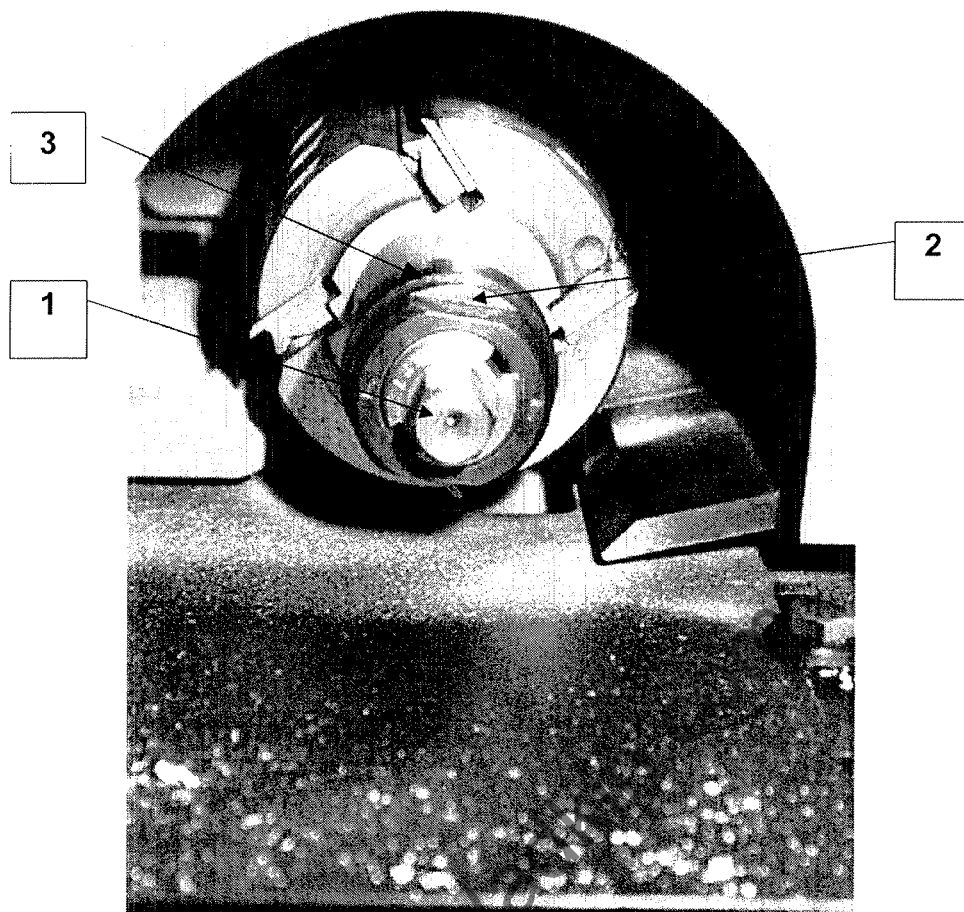

Figure 5.1.2
5.1.2 Remove / Refit Cutter Block in Spindle (Figure 5.1.2)